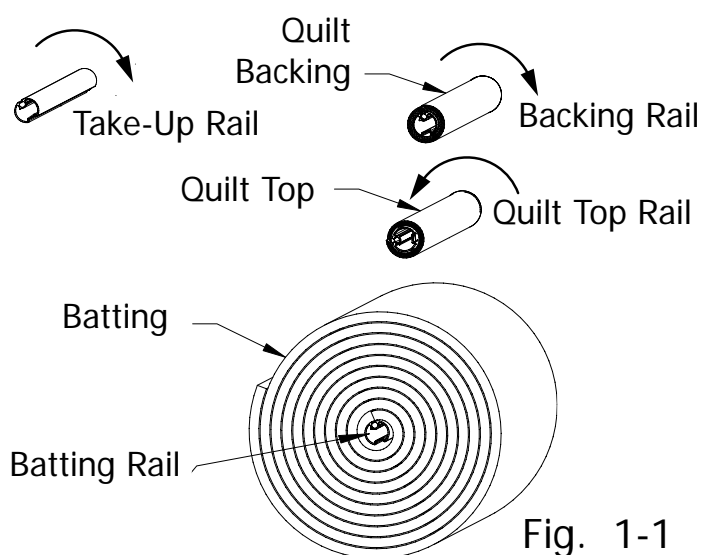

Fig. 1-1
**1-2:** Roll the batting onto the rail. The direction that you roll the batting onto the rail doesn't matter. The important thing to watch when rolling batting onto the rail is that the batting isn't stretched (See Fig. 1-1).
**NOTE:** It is important that you roll the rail the proper direction so the fabric rolls onto the quilt top rail the right way (If the rail always rotates the correct direction, as indicated in Fig. 1-1 you will avoid potential problems with the quilt fabric).